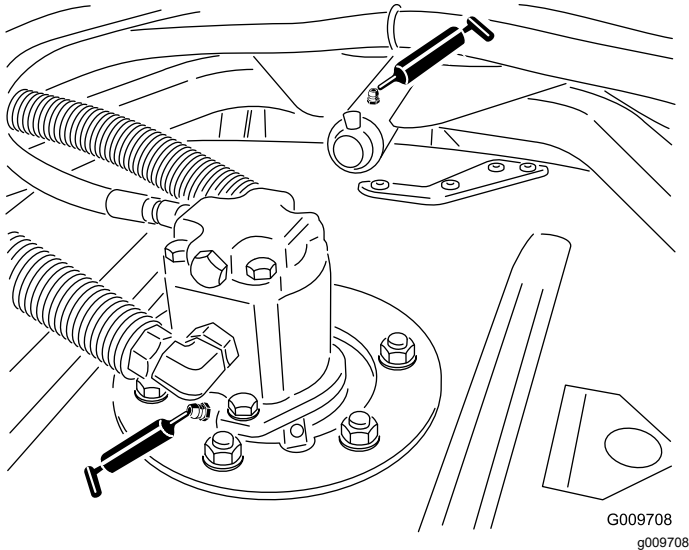

Figure 85
- Cutting-unit spindle-shaft bearings (2 per cutting unit) as shown in Figure 85
- Cutting-unit carrier-arm bushings (1 per cutting unit) as shown in Figure 85